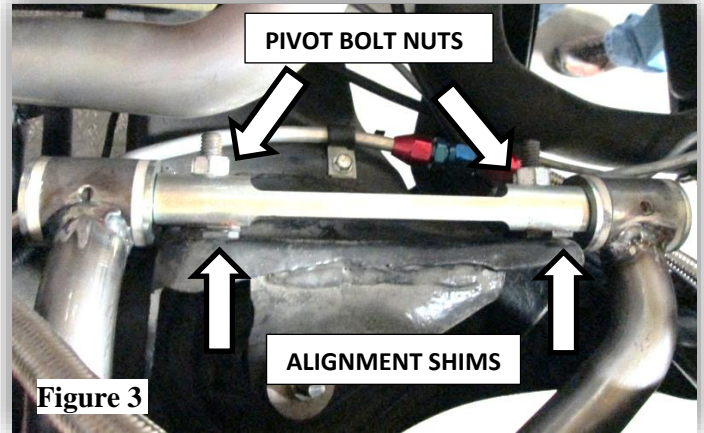

Figure 3
9. Note the position of the shims on the cross shaft of the upper control arm. **(Figure 3)**